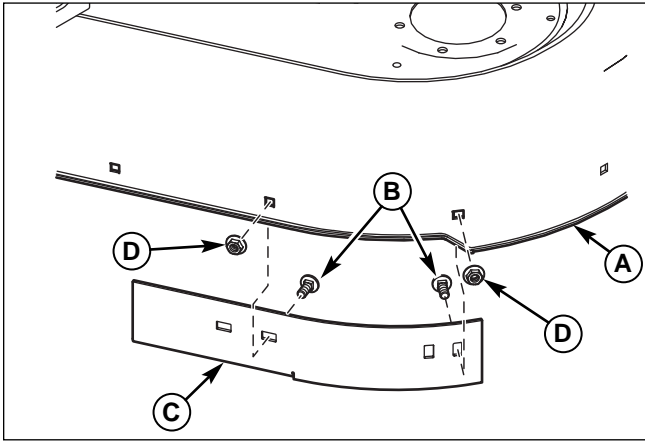

Figure 4. Baffle Removal
1. Remove and discard short blowout baffle (C, Figure 4), carriage bolts (B) and locknuts (D) from mower deck (A).